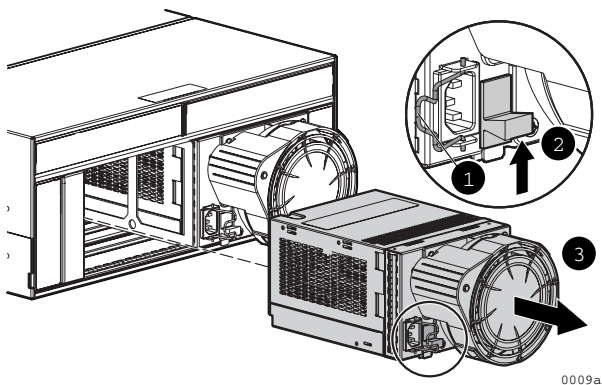

Figure 4 Removing a power supply
1. Disengage the power cord lock (1, Figure 4) and disconnect the power cord from the power supply.